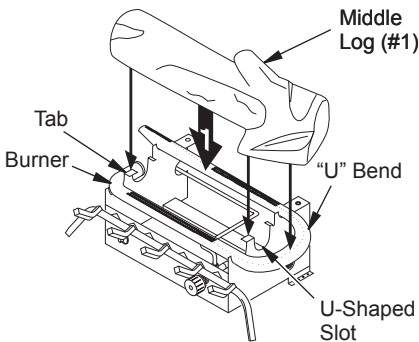

Figure 29 - Installing Back Log (#2)
1. Place the base of the middle log (#1) in the U-shaped slots of the grate base. The cutout on the right of the middle log should fit over the burner (see Figure 29). Make sure the front of the middle log is resting on the tabs of the grate base and the cutout area is centered over the burner "U" bend.